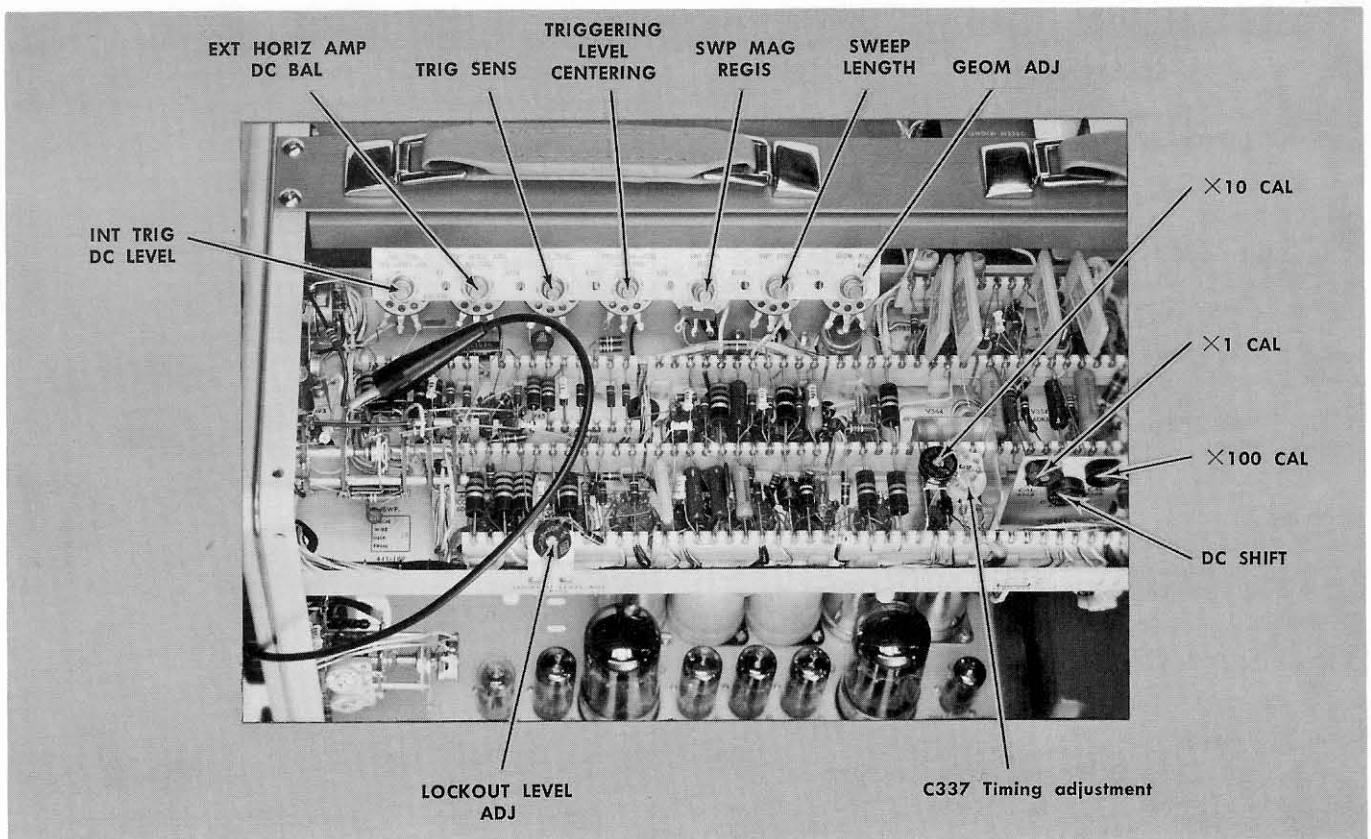

Fig. 6-6. Calibration adjustment locations.
- f. Adjust the SWP/MAG REGIS R359 control (see Fig. 6-6) to position the center 5 msec time marker to graticule center. If necessary, repeat steps 16e and 16f until there is no movement of the 5 msec time marker as the SWEEP MAGNIFIER switch is changed from X100 to NORMAL (X1) position.
- b. Adjust the X10 CAL R342 control (see Fig. 6-6) so there is 1 marker per cm from the 1-cm to 9-cm graticule lines. For accurate adjustment the X10 CAL control should be adjusted so the markers at the 1- and 9-cm graticule lines coincide exactly with the 1-cm and 9-cm graticule lines.